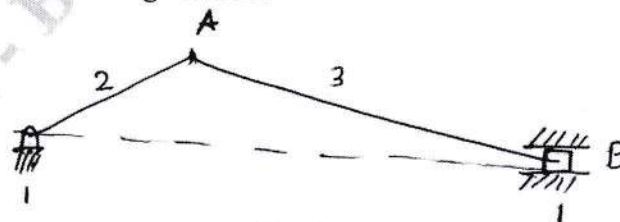

Fig.Q.4(c)
- c. In a slider crank mechanism shown in Fig.Q.4(c) the crank OA = 300mm and connecting rod AB = 1200mm. The crank OA is turned 30° from inner dead centre. Locate all the instantaneous centres. If the crank rotates at 15rad/sec clockwise find i) Velocity of slider B